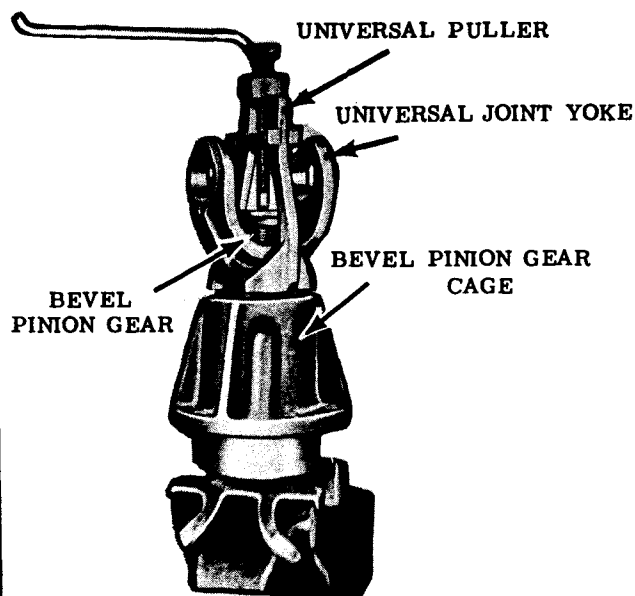

Figure 34. Removing universal joint yoke.
- j. Place the bevel pinion gear cage in a vise and remove the cotter pin and nut that secured the universal joint yoke to the bevel pinion gear. Using a universal puller, remove the universal joint yoke as shown in figure 34.